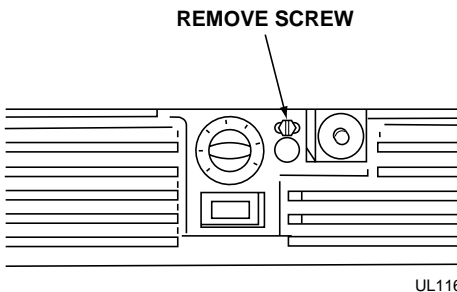

Figure 15
1. Remove grille (1 screw). See Figure 15.